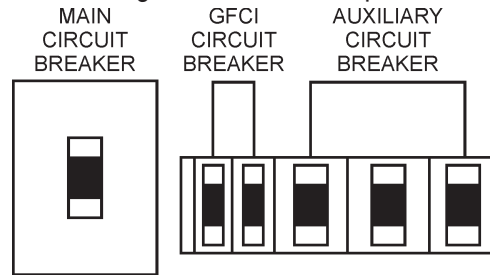

Figure 54. Main, GFCI and Load Circuit Breakers Off
1. Place both the **MAIN, GFCI and LOAD** circuit breakers as shown in Figure 54 to the **OFF** position..